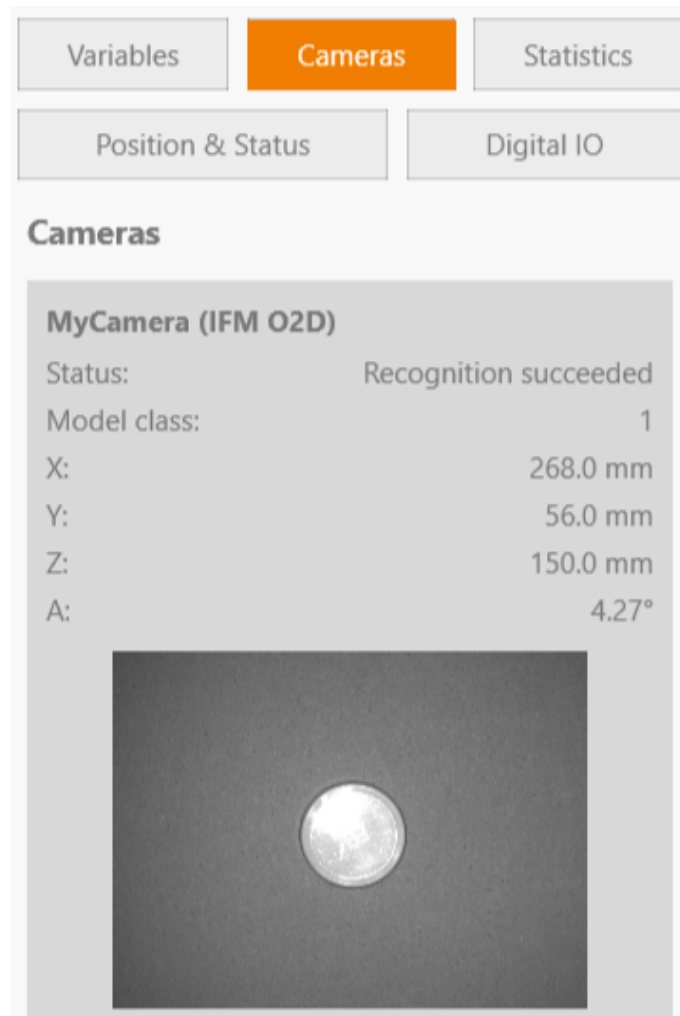

Figure 49: Camera status area
- CRI interface: The image is transmitted via the Ethernet interface to the iRC and can be observed there in the camera status area (see fig. 49).